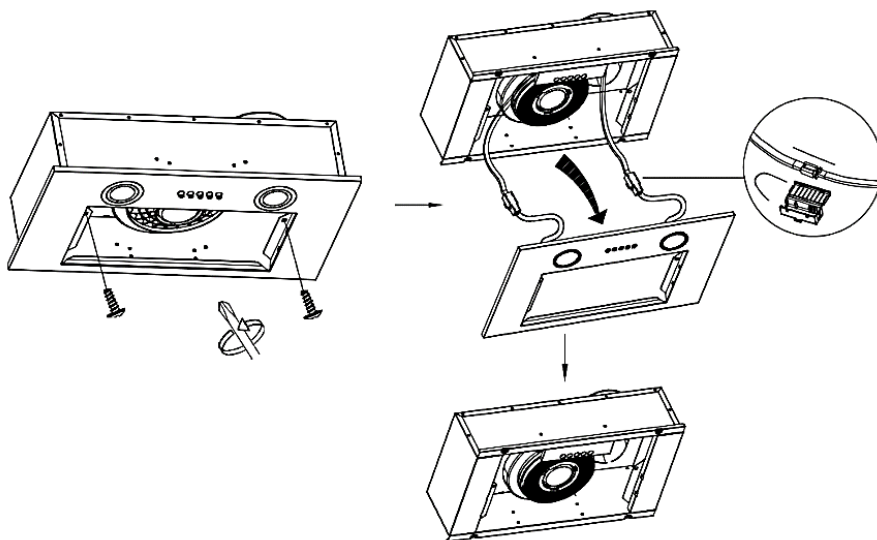

Fig. 5
4. Loosen the two screws of the front panel, pull down the front panel and pull out the lamp line. Open the power protection cover and disconnect the plug. Then the front panel could be removed. (see Fig. 5,6)